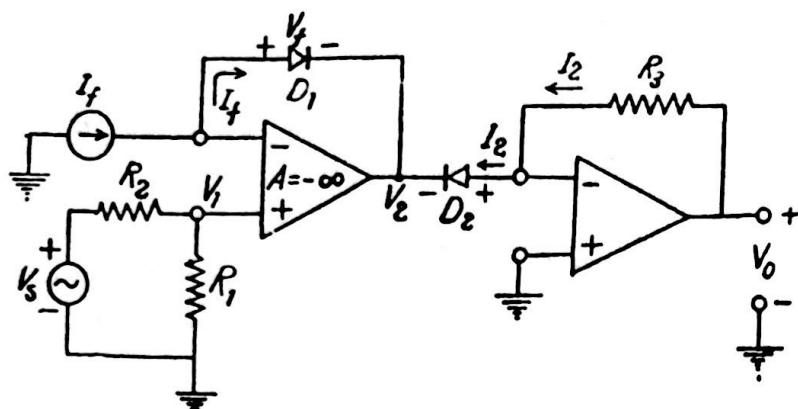

Fig. 25. Antilog amplifier.
(19) ANTILOGARITHMIC AMPLIFIER : Refer to fig. 25. The voltage, V_1 , at the non-inverting terminal of OP-AMP-1, is given by